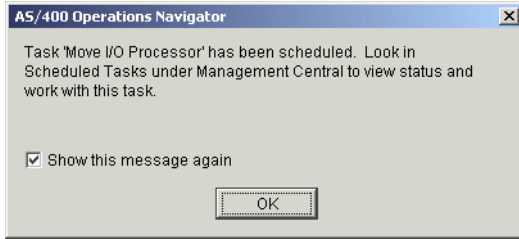

Figure 8-46 AS/400 Operations Navigator confirmation display: Primary to As05b
- A message is then sent to confirm that the move has been scheduled in Management Central. See Figure 8-46.